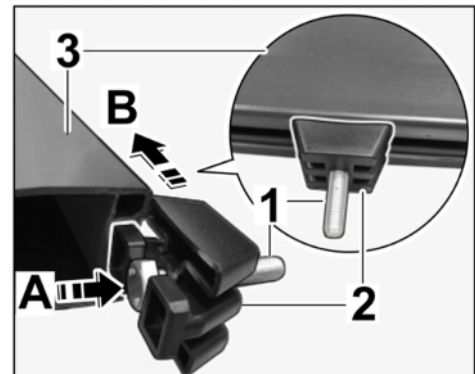

Figure 4
1.3.1 Position hexagon-head bolt (M8 x 45) into the (plastic) sliding block with the bolt head flush (⇒ *Figure 4 -A-*).
1.3.2 Guide the (plastic) sliding block together with the M8 x 45 hexagon-head bolt into the groove on the underside of the ski support (⇒ *Figure 4 -B-*).